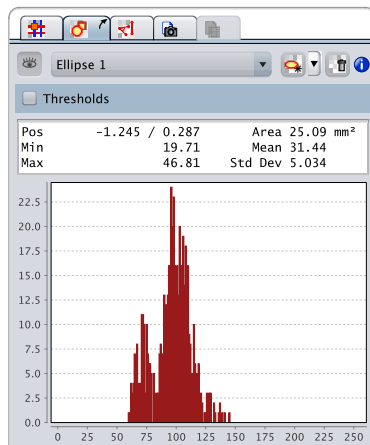

Figure 1.129: Region of Interest Tool
- ▶ The Regions of Interest tool opens (see [Figure 1.129 \[▶ 151\]](#)).
- ▶ On the Palette, the minimum, maximum, mean, standard deviation and a histogram of values inside the ROI are displayed (see [Figure 1.129 \[▶ 151\]](#)).